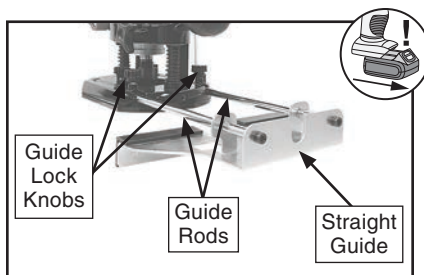

Figure 16. Straight guide components.
2. Loosen guide lock knobs and slide straight guide rods into plunge base (see **Figure 16**).